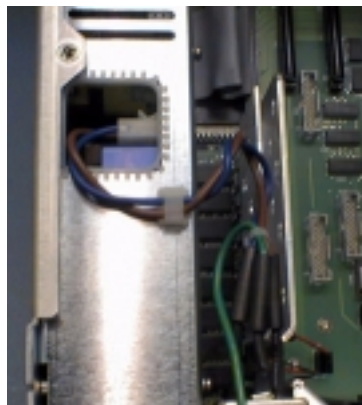

Figure 3-33. Unplugging the line cord from the power supply
- 6 Unplug the line cord from the power supply. See Figure 3-33 below. Remove the cable from the cable clamp on the power supply